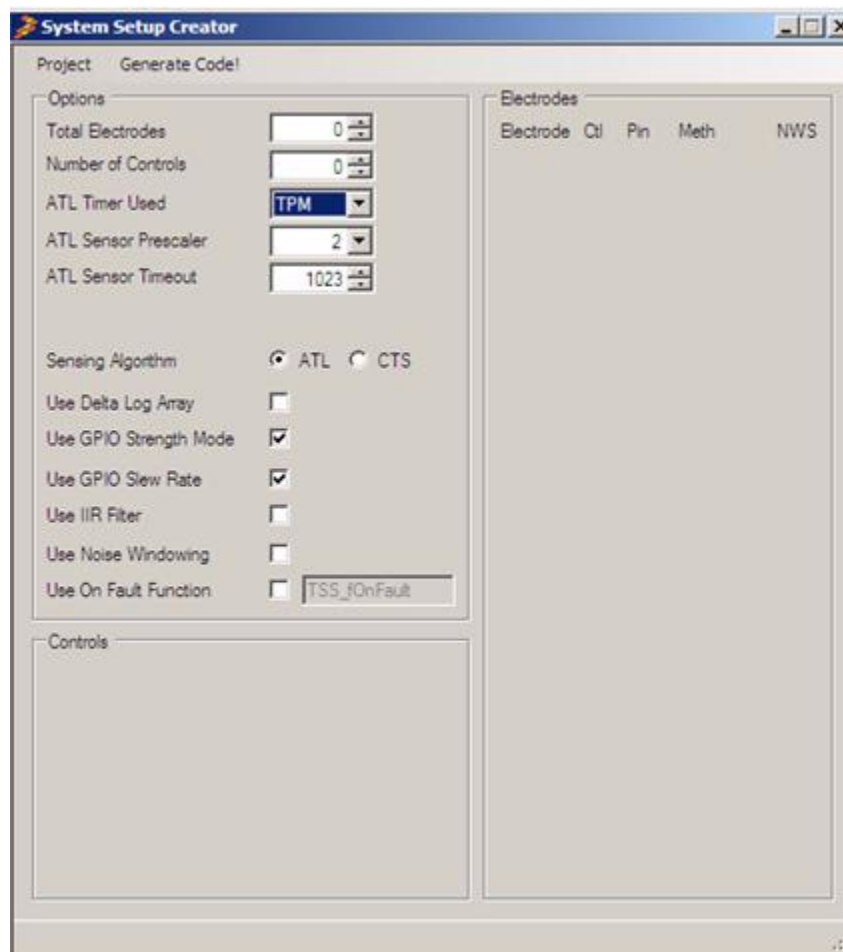

Figure 1. System Setup Creator (SSC)
- Open the System Setup Creator (SSC), and click Start/Programs/Freescale/Touch Sensing Software v2.0/System Setup Creator. Figure 1 shows SSC.